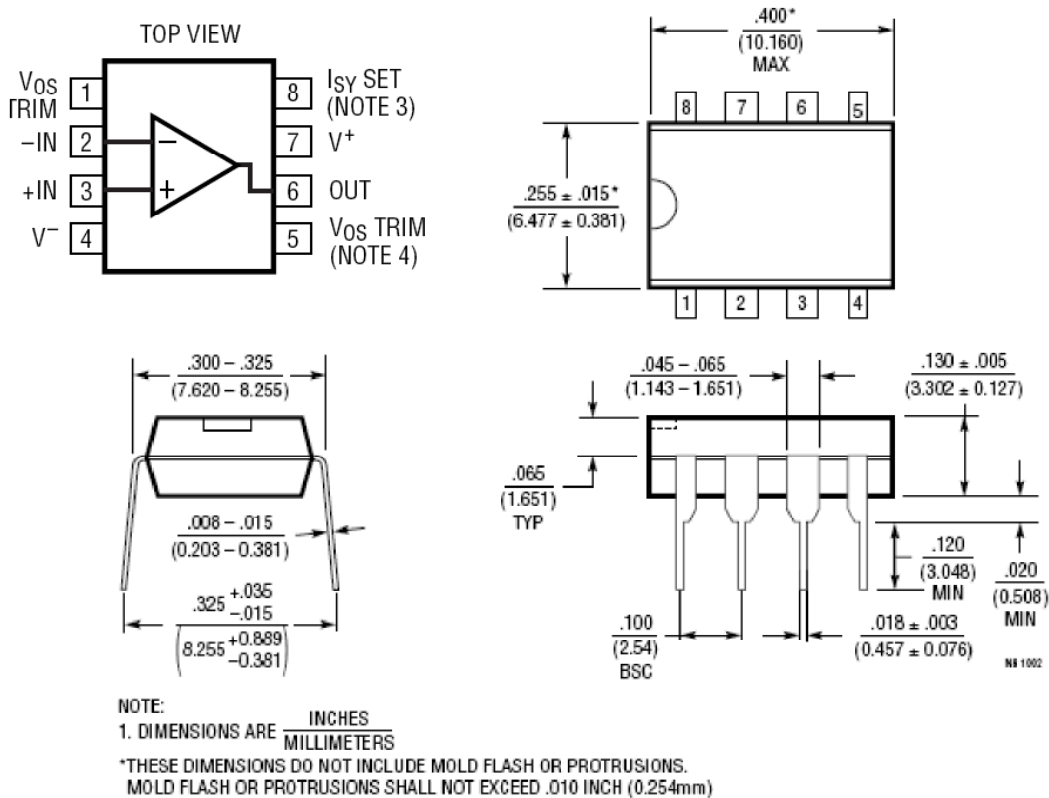

Figure 3. LT1006 Operational amplifier. Note carefully the pin assignments.
7. Construct each circuit. You can set the negative supply voltage at pin 4 in the op amp circuit to ground, for if you connect the LED with the polarity shown it will result in a positive voltage at the output. Notice carefully the pin assignments for the op amp in Figure 3, as referenced to the notch on the top of the op amp. Use a 10 Meg Ohm resistor for R , keeping in mind that the input resistance of the voltmeter will play a central role in the circuit on the left.